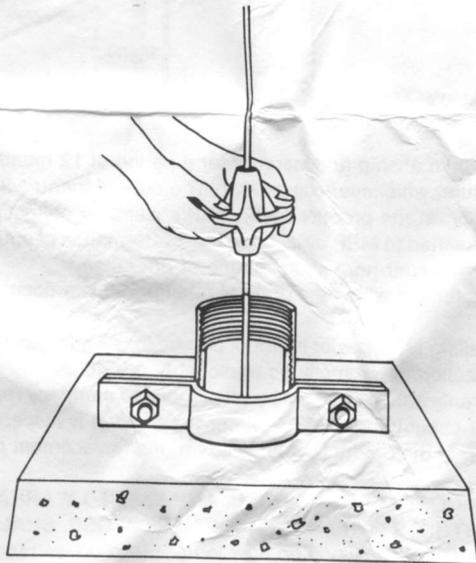

FIG. 4
**COLUMN AND SHAFTING:** Insert a 5 foot length of shaft with bearing sleeve up, into a 5 foot length of outer column, attaching pipe clamps just below the pipe coupling. Using a piece of ½" rope, place a clove hitch around the lower end of the outer column and another around the lower end of the shaft. With the rig, raise the column above the pump, maintaining tension on the rope to prevent the shaft from slipping out of the outer column while it is being elevated. **CAUTION:** Keep column and shafting threads out of the dirt. Lower the lineshaft into the bowl shaft coupling after cleaning both threads and shaft end. Tighten until the shaft ends butt. **NOTE:** Threads are left hand. Lower the outer column into the pump bowls. Apply thread lubricant or compound and tighten until the pipe butts. Raise the pump a few inches, remove the lower clamp, and lower the pump into the well until the upper pipe clamp rests on the clamp supports. With open end down, place the lineshaft bearing assembly over shaft. Screw the bearing assembly into the column coupling until it butts. See Figure 4. Screw the coupling on the shaft until it butts with the sleeve. The shaft under the stainless steel sleeve is rust-proofed before shipping and therefore the sleeve should not be removed except for repair or replacement. Repeat above procedure for the remaining 10 foot lengths of column with the following precautions: